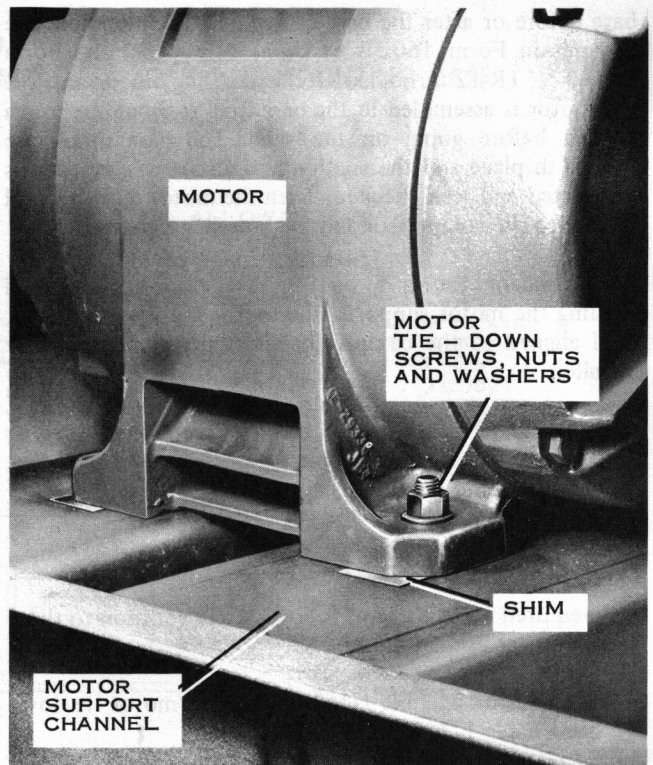

FIG. 11— INSTALLATION OF MOTOR TO MOTOR SUPPORT
If the motor is displaced more than 1/16" relative to the base, the original dowel pin holes cannot be used. Drill 23/64" dia. holes through the two front feet and the motor support. Ream the holes with a No. 1 Morse Taper Reamer and install dowel pins. (See Figs. 11, 12, 13, 14, and 15.)
14. Arrange dial indicators per paragraph 4 under ALIGNMENT CHECK PROCEDURES. Install motor tie-down bolts and tighten them. (See Fig. 11).